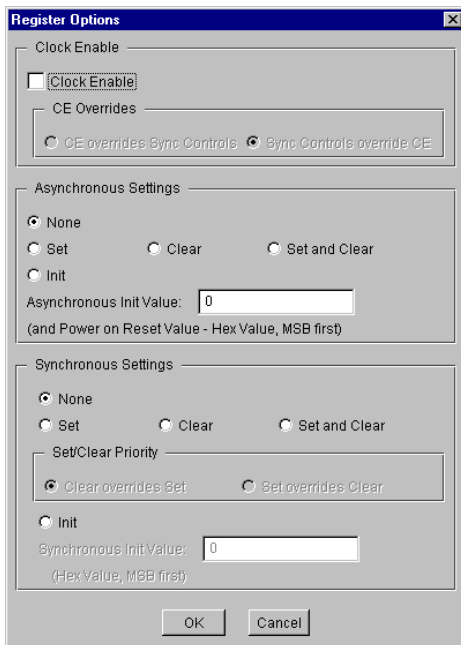

Figure 2: Bit Bus Gate Register Options Parameterization Screen
- **Register Options:** This button is only enabled when a registered output has been requested via the **Output Options**. Clicking on this button brings up the Register Options parameterization screen (see figure 2).
The Register Options parameterization screen for this module is shown in Figure 2. The parameters are as follows: